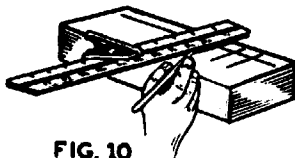

FIG. 10
8. Lines are drawn at right angles by using the combination square or steel square. The blade is held at right angles to the work and the lines are scribed along the edge of the blade. (Fig. 10).